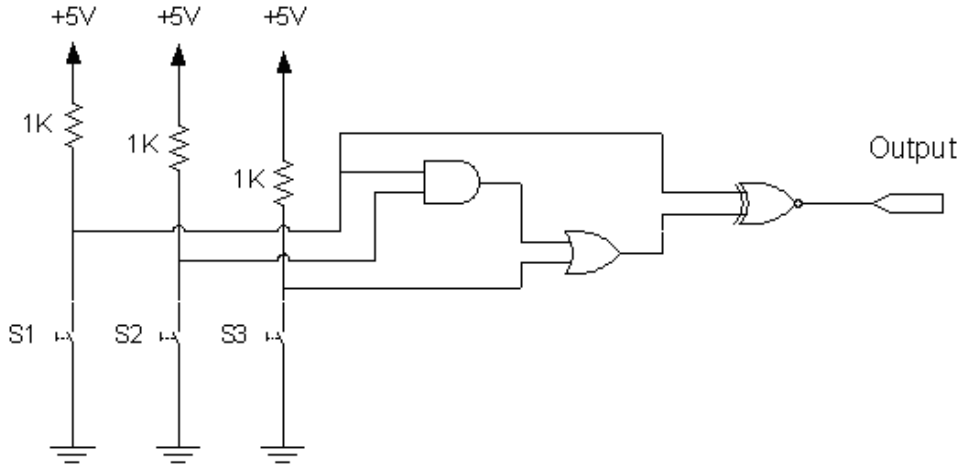

Figure 1.
- Assume you have designed the touch sensor glue logic shown in Figure 1. This circuit is used in an industrial machine, where the switches are located strategically to indicate the different states of the machine.